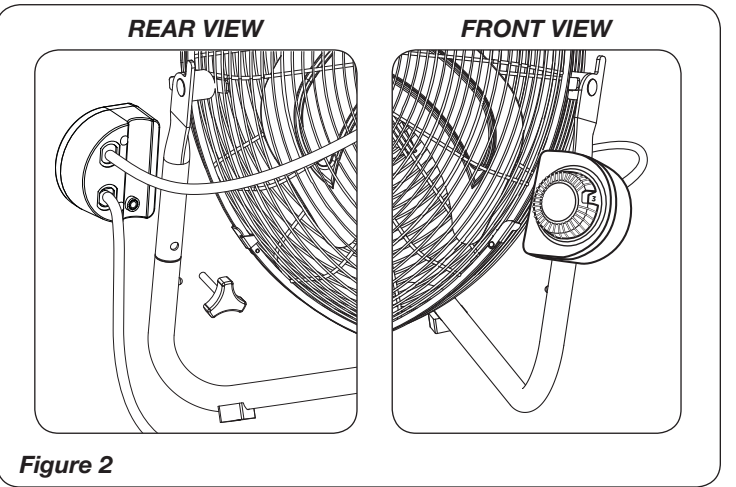

Figure 2
5. Insert the holding screw from the rear of the Fan through the hole in the stand leg as shown. (Figure 2)